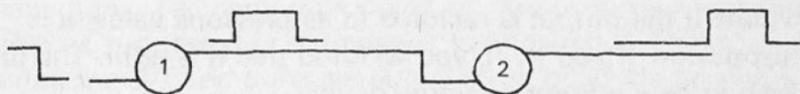

Figure 78
**b** A short while after input 1 goes from high to low, output 2 goes from low to high, stays there a short while, then goes low again, as in figure 78.